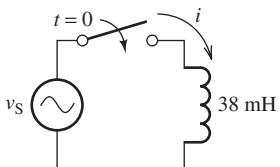

FIGURE P4.37 Circuit for Problem 4.37.
- 4.37 (A)** Current through an inductor is turned on at time $t = 0$, as shown in Figure P4.37. $v_s = \cos(200\pi t)$. Calculate the energy delivered to the inductor at $t = 21$ ms.
- 4.52** (H) Given the voltage source is $5\sin(\pi t)$, current through an inductor is turned on at time, $t = 0$, as shown in Figure P4.37. Use PSpice to plot the voltage and current flow through the inductor for 25 ms.